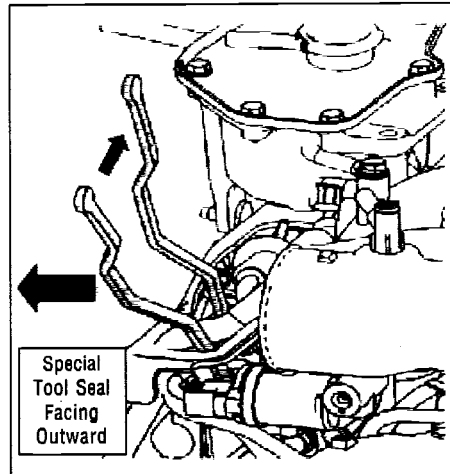

Fig.10: Insertion of Special Tool through the upper opening for Rear Bolt (RH)
- When tightening the **rear bolt**, the Special Tool Seal should be facing outward (as shown in Fig.10). From the paint mark on the bolt flange, turn the bolt 60 degrees (90 degrees maximum) clockwise. *Note: In some cases, there may not be sufficient clearance for the wrench to fit between the bolt and fuel line. In this case, it will be necessary to use a 10mm open end wrench.*